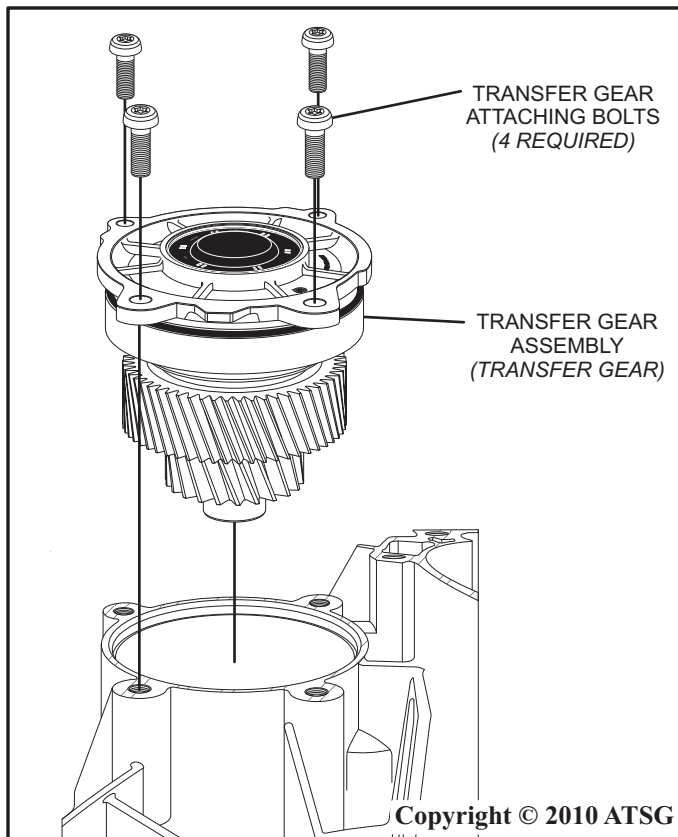

Figure 24
59. Coat the transfer gear bearing housing o-ring with a small amount of ATF and carefully install the transfer gear into the transmission by twisting until the cover sits flush with the case as shown in figure 24.
60. Install the 4 transfer gear attaching bolts as shown in figure 24.